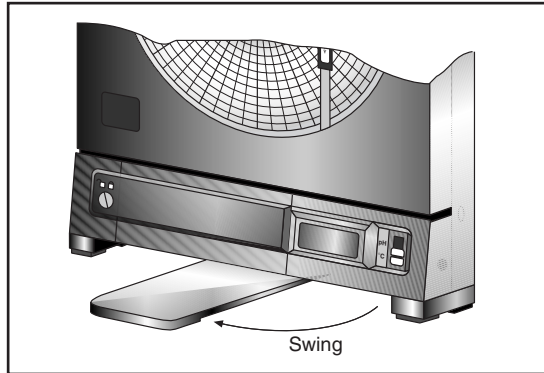

Figure 2-2. Swiveling Stabilizing Arm
3. Swing out the stabilizing arm and extend it towards you. Figure 2-2 shows how to swing out the stabilizing arm. Make sure the slot in the stabilizing arm extends out the rear of the recorder.